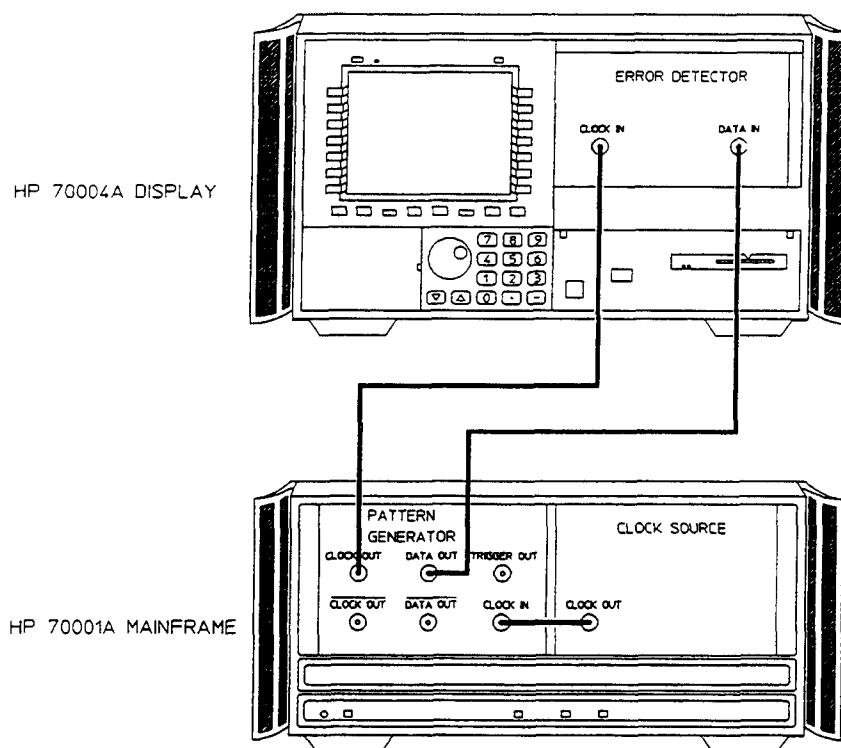

Figure 2-5. System Back-to-Back Connection
2. Connect the pattern generator DATA OUT and CLOCK OUT ports to the error detector DATA IN and CLOCK IN ports respectively. Terminate any unused ports with 50 ohm terminations (HP part number 1250-2153). See figure 2-5. Ensure the HP 70001A mainframe and HP 70004A display rear-panel HP-MSIB ports are connected. Information on HP-MSIB cabling is given in the HP 71600B Series Installation and Verification manual.